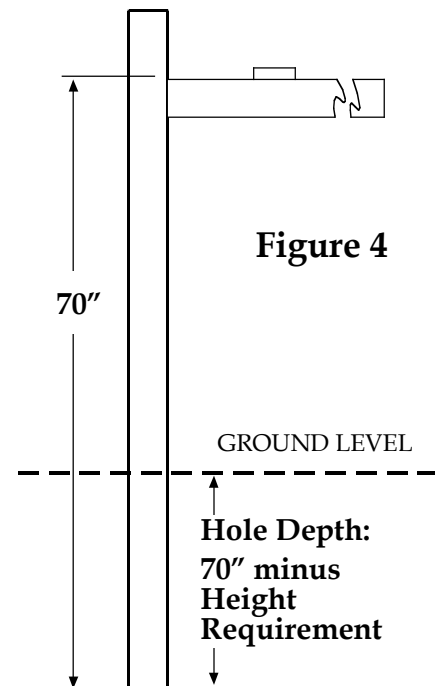

Figure 4
- Dig holes 58" on center (45.332" for Triple Mounts). Determine depth of holes using the Post Office height requirement (X), subtracting the height from the top of the cross bar to the bottom of the post. I.E...70" - X = Hole Depth. (See Figure 4)